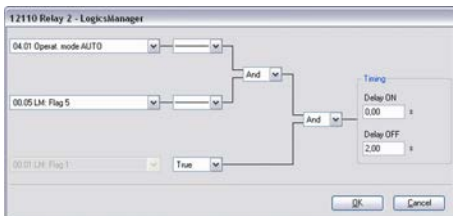

Fig. 168: LogicsManager function "Relay 2"
- ➔ Configure the LogicsManager function "Relay 2" as shown in ( Fig. 168).